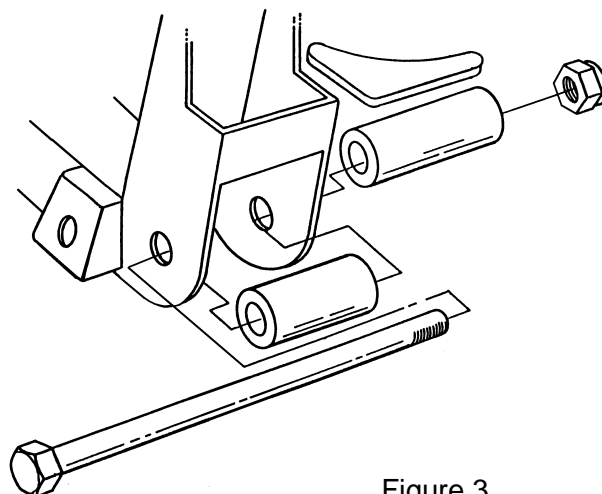

Figure 3
4. If you purchased a complete I.F.S. Package from *HEIDTS*, it was supplied with Full Lower A-Arms. Begin by installing the Spacers onto the crossmember. The holes where the lower control arms attach to the Crossmember must be enlarged to 5/8". Install the Crossmember Spacers and the Rear Spacers which were supplied with the Lower Control Arms onto the Crossmember as shown in Figure 3 using the supplied Inner Bushing Bolts, Nuts and a temporary spacer under the Nuts. DO NOT use the A-Arms for this operation as the welding heat will melt the rubber bushings. Tighten the Bolts and Nuts tight. Weld the Rear Spacers to the Crossmember all around. Weld the Crossmember Spacers as far as possible inside the crossmember on both ends. Position the Gussets horizontally, not vertically, against the Rear Spacers and the back of the Crossmember. Weld Gussets to Spacers and Crossmember. When it cools, remove the bolt.